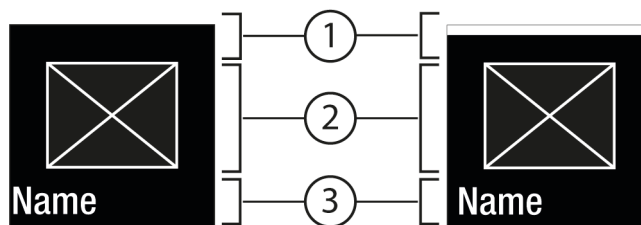
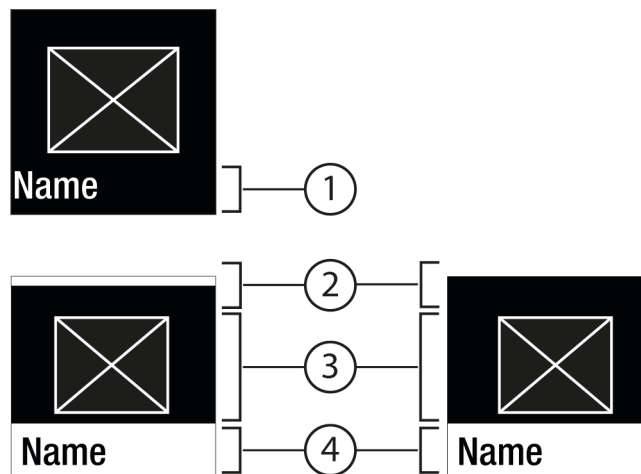

Fig. 6
Fig. 7
- Press Confirm Fig. 5 (2) to open the submenu Fig. 7 (4).
- Set a new value: Press Confirm *Fig. 5 (2)* to select an active value *Fig. 6 (1)*.
- Back to the menu: Press Confirm *Fig. 5 (2)* to select the active value *Fig. 6 (2)*.
- ▷ Status: On *Fig. 6 (1)* appears briefly in the submenu *Fig. 7 (4)*.